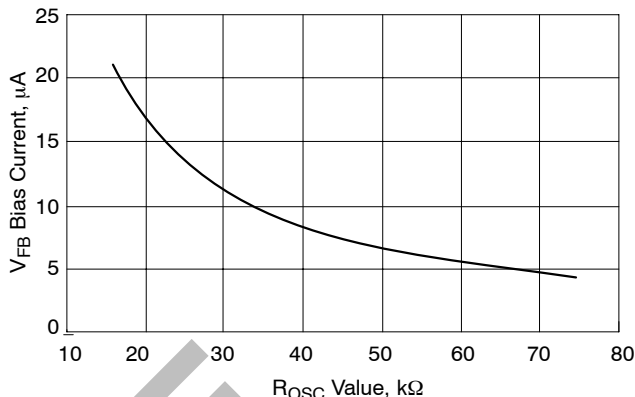

Figure 4. V_{FB} Bias Current vs. R_{OSC} Value
2. The V_{FB} Bias Current changes with the value of R_{OSC} per Figure 4.
To set the no-load positioning, a resistor is placed between the output voltage and V_{FB} pin. The V_{FB} bias current will develop a voltage across the resistor to increase the output voltage. The V_{FB} bias current is dependent on the value of R_{OSC} . See Figure 4.